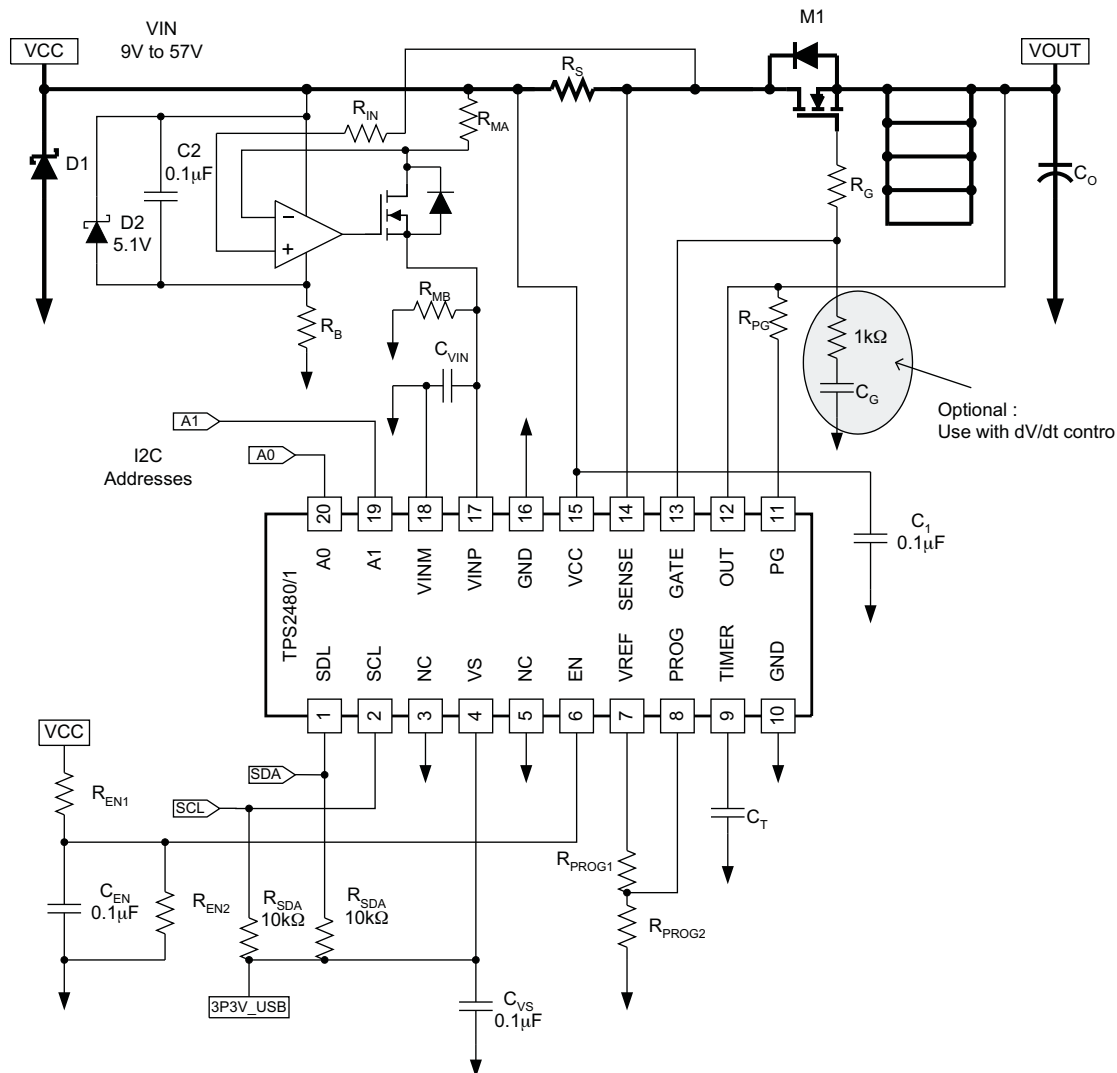

Figure 19. TPS2480/81 High Voltage application
The TPS2480/81 can be used to monitor current from a voltage source greater than 26 V by using the OPAMP circuit shown in Figure 19.
(2) Read data is from the last register pointer location. If a new register is desired, the register pointer must be updated. See Figure 19.
(3) ACK by Master can also be sent.